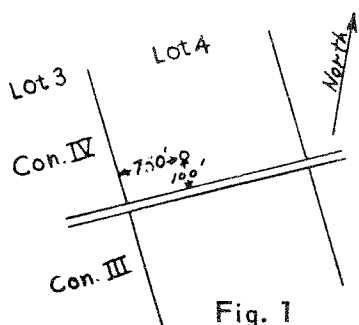
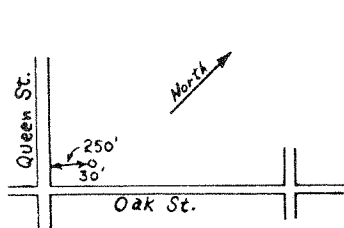
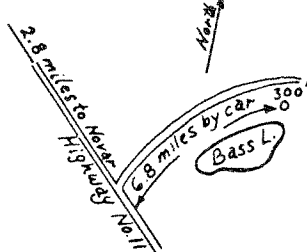

Fig. 1
Fig. 2
Fig. 3
5. LOCATION OF WELL: IT IS ESSENTIAL TO KNOW THE LOCATION OF EACH WELL AS ACCURATELY AS POSSIBLE. TWO DISTANCES ARE ALWAYS NECESSARY. IN RURAL AREAS, ONE DISTANCE SHOULD BE TAKEN FROM A ROAD AND THE OTHER FROM EITHER A ROAD OR A TOWNSHIP LOT LINE (FIG. 1). IN A VILLAGE, TOWN OR CITY, BOTH DISTANCES SHOULD BE TAKEN FROM NAMED STREETS (FIG. 2). IN AREAS WHERE IT IS DIFFICULT TO OBTAIN LOT AND CONCESSION NUMBERS, SUFFICIENT INFORMATION SHOULD BE SUPPLIED IN THE DIAGRAM SO THAT THE WELL CAN BE RELATED TO A KNOWN UNIT SUCH AS A MAIN HIGHWAY, RAILWAY OR MUNICIPALITY (FIGS. 3 & 4).